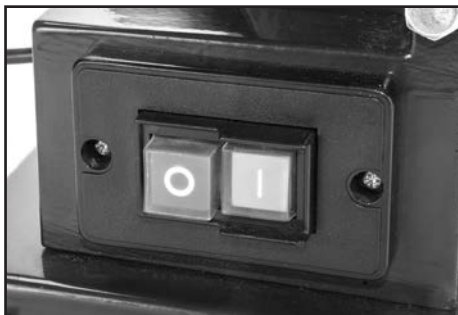

FIG.13
9.1 NO-VOLT ON/OFF SWITCH - FIG. 13